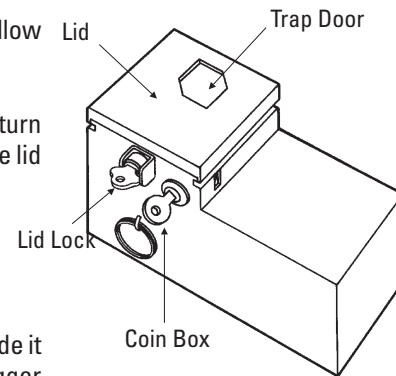

Figure 3-14:
Refer to Figures 3-14 through 3-16 as you follow these instructions.
- 1 Insert the lid key into the lid lock and turn it clockwise (Figure 3-14). Remove the lid from the Box.